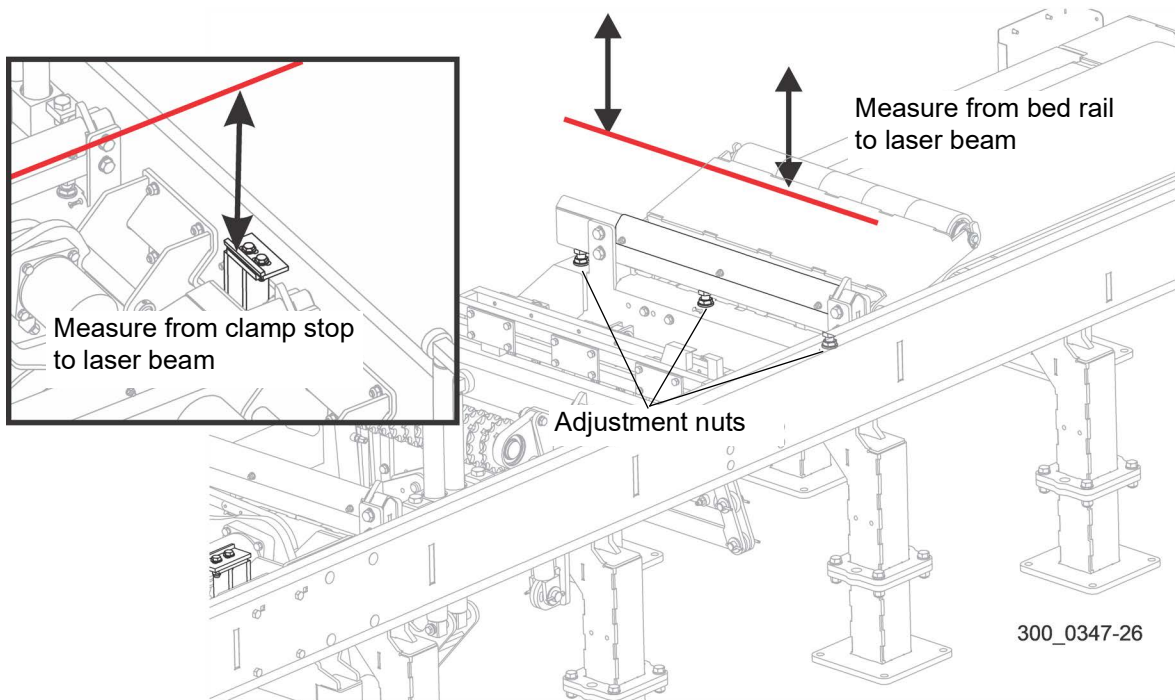

FIG. 3-39
- Adjust bolt (C) up and bolt (D) down to tilt the arm up.
- Adjust bolt (D) up and bolt (C) down to tilt the arm down.
10. Tighten the jam nuts. See Fig. 3-39.